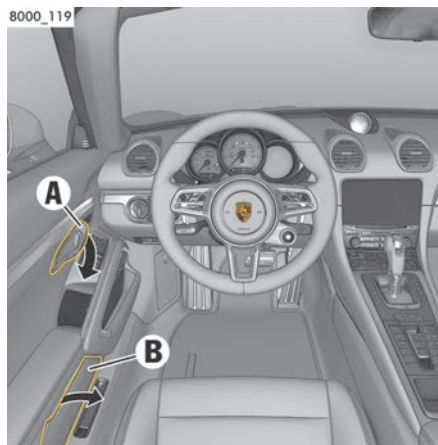

Fig. 215: Door storage compartment
- ▶ Lift up the lid **B** (Fig. 215).